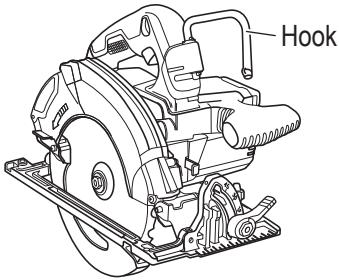

Fig. 17
(1) Turn the hook away from the saw body to hang the saw from a rafter, joist or other elevated support. (Fig. 17)